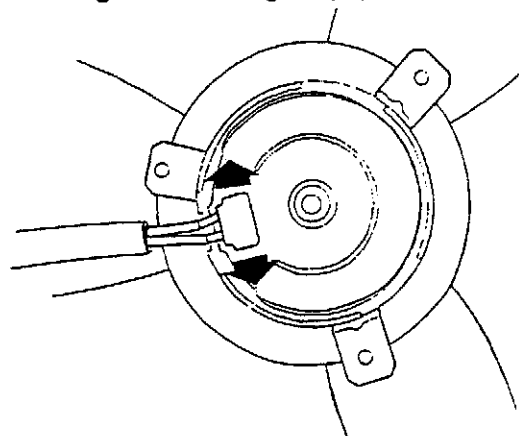

Figure 7. Bending hooks aside
2. Carefully bend aside the two hooks holding the protective cover over the cable connections and remove the cover. See Figure 7.